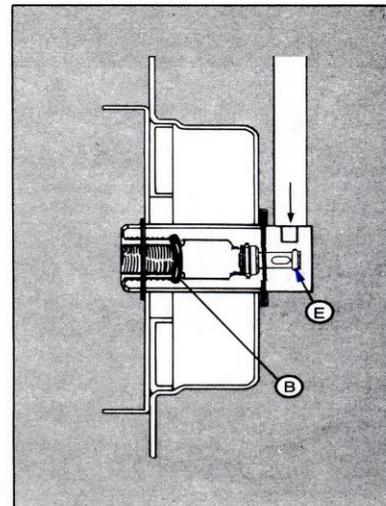

FIGURE 3
When the primary valve body is removed for inspection and servicing, line gas pressure forces the secondary check valve (E) tight against the seat, sealing the gas against loss during the period of maintenance - Figure 3.
3. Remove the two Phillips head face plate screws (item 12) and take off the faceplate.
4. Examine the face plate latch springs (items 11) and replace them if loose.
5. Examine the face plate (item 10) and replace it if bent or distorted.
6. Remove the valve body (item 8) by turning it counterclockwise until it is separated from the housing. When the valve body is removed from pressure gas services, the secondary check valve assembly (item 4A) is released, and line pressure forces the secondary check valve (item 4A) against the seat. This seals gas or air from escaping during inspection and maintenance. Inspect the secondary check valve (item 4A) for proper seating. If the seating is incomplete follow instructions in note 10. (See figure 3.) Examine valve body (item 8) for signs of distortion or wear at the entry port or for worn uneven screw threads. Replace if necessary, otherwise replace the valve body O-ring (item 9) using the O-ring which has been lubricated lightly with Chemetron O-ring lubricant (part no. 64-90-2111).
7. Remove the poppet (item 6) and examine it for wear, distortion or contamination. Replace it if necessary. Otherwise,
8. Insert vacuum spring (item 13) and replace if necessary. Set aside until reassembly.
9. Remove and replace the housing O-ring (item 5), lubricating lightly as indicated above.
10. Remove the secondary check valve (item 4A) with insertion tool, (part no. 64-90-2050). (See figure 3). **WARNING: BEFORE REMOVING SECONDARY VALVE, SHUT OFF THE GAS FLOW, SERVING THE OUTLET STATION, AT THE NEAREST ZONE VALVE BOX. BE SURE TO CHECK WITH OTHER DEPARTMENTS ON THE SUPPLY LINE, SO THAT IN SERVICE OPERATIONS ARE NOT INTERRUPTED. MISE EN GARDE: AVANT D'ENLEVER LE BOÎTIER, COUPER L'ÉCULEMENT DE GAZ POUR LE SERVICE À LA SOUPE À LA ZONE LA PLUS PROCHE. S'ASSURER DE VÉRIFIER AVEC LES AUTRES DÉPARTMENTS SUR LA LIGNE D'ALIMENTATION DE MANIÈRE À CE QUE LES OPERATIONS EN SERVICE NE SOIENT PAS INTÉRROMPUES.**
11. Examine the secondary check valve assembly (item 4A). Replace if necessary. Lightly lubricate the replacement O-rings before assembly, with 64-90-2111 lubricant.
12. Reinstall the secondary check valve assembly into the block with the large end facing out using the insertion tool (part no. 64-90-2050). (See Figure 3).
13. Reassemble all the components in reverse order of disassembly. Make sure the O-rings are seating, and the unit is satisfactorily assembled at each stage. When reinstalling the valve body, turn the body past the housing O-ring (items 5), rather than pushing it, to assure that the O-ring is not unseated. Turn the valve body clockwise into the housing until the valve body flanges are even with the finished wall. The valve body may be turned outward to compensate for up to 3/8" variation in the wall thickness.